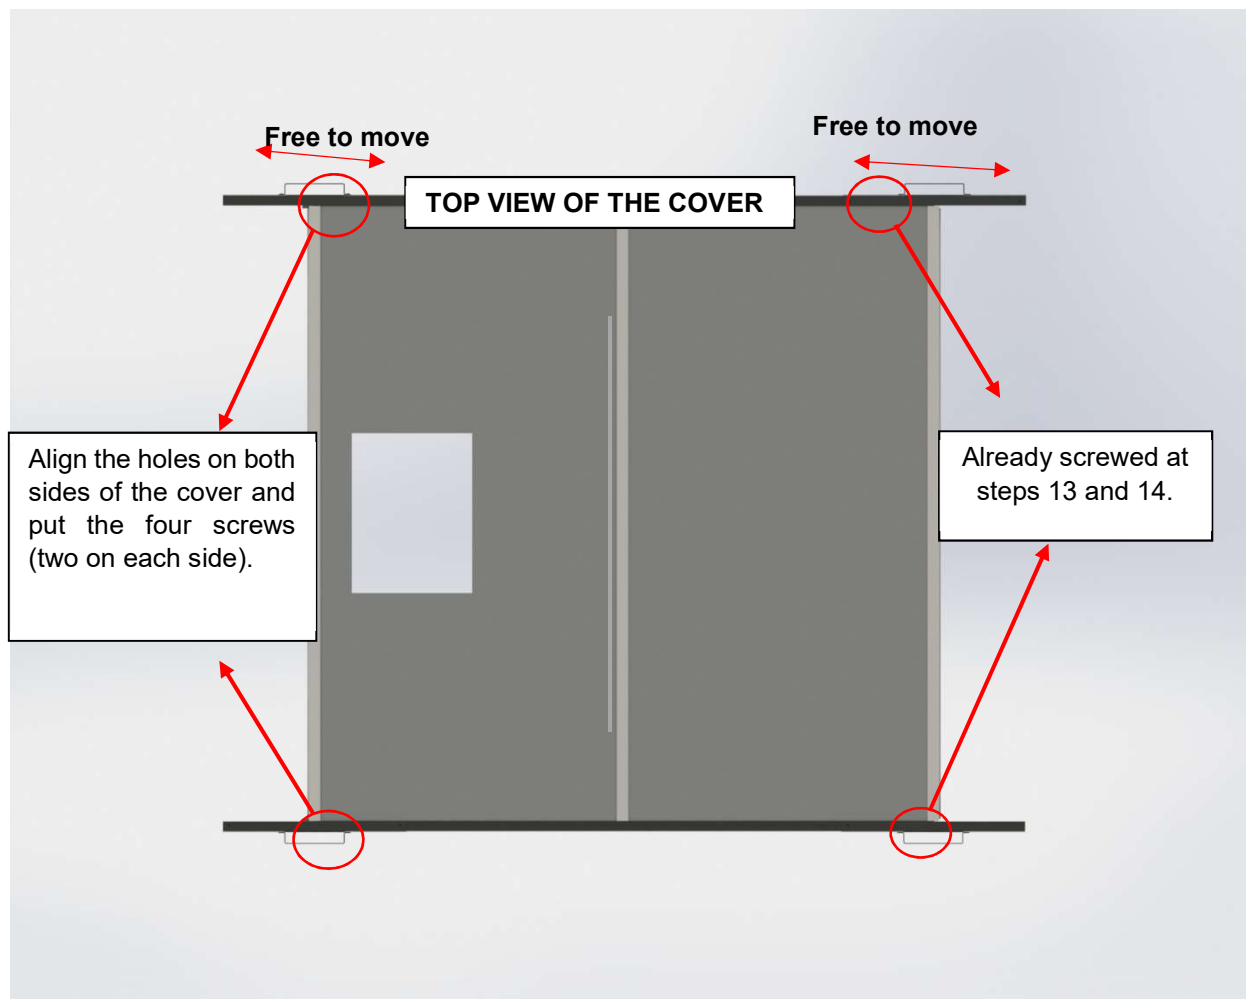

Figure 64
- ♦ Make sure the I-beam is still free to move in the I to C slots (figure 64).
17) Repeat steps 15 and 16 for the opposite side of the cover (Figure 64).